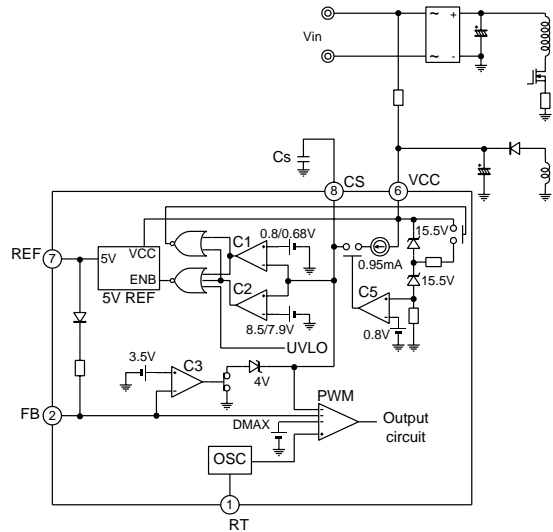
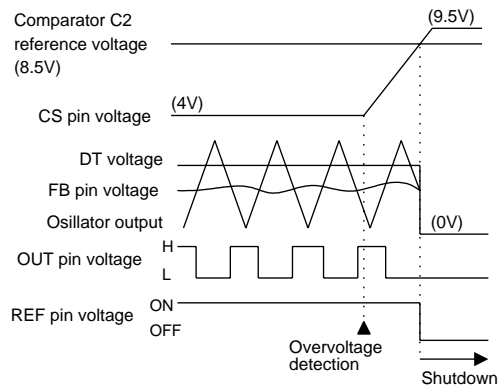

Fig. 16 Overvoltage shutdown circuit
Fig. 17 Overvoltage shutdown timing chart
The IC contains a Vcc overvoltage protection circuit to protect the IC from damage by overvoltage. Figure 16 shows the overvoltage protection circuit. Figure 17 is a timing chart that illustrates overvoltage protection operations. Overvoltage is detected if the supply voltage Vcc rises to 31.8V ($I_{CC}=14\text{mA}$) or more and current flows in the built-in zener diode. The output of comparator C5 then goes high and the constant current source (0.95mA) raises the CS pin voltage. When the CS pin voltage exceeds 8.5V , the output of comparator C2 goes high to turn off the 5V REF circuit. The IC then enters the latched mode and the IC output is put in the off (low voltage) state. When latched mode, the IC current consumption is $45\mu\text{A}$ (typ) ($V_{CC}=10\text{V}$). This current must be supplied through the startup resistor. The overvoltage shutdown operation can be reset by lowering the supply voltage to below 9.0V or forcing the CS pin voltage below 7.9V . (When you want to enable Vcc overvoltage shutdown at a desired voltage, see item 6 in "Design advice.")